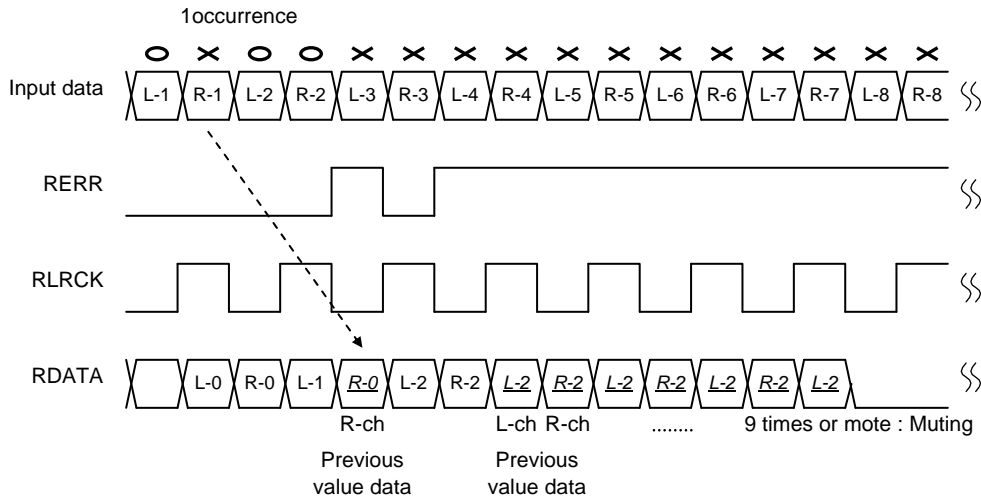

Figure 10.11 Example of Data Processing upon Parity Error Occurrence
• Figure 10.11 shows an example of data processing upon occurrence of a parity error.